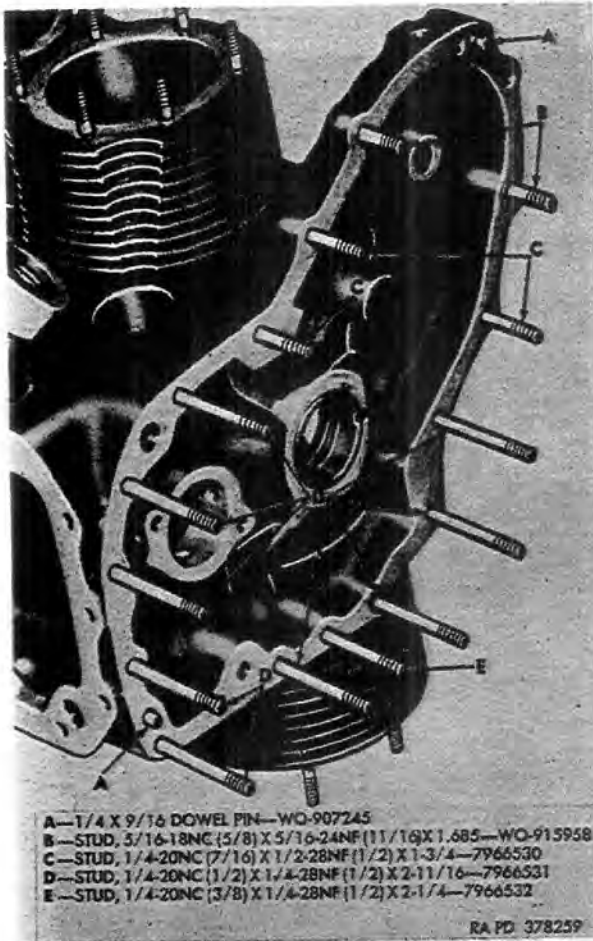

Figure 32. Stud location—Cylinder block, front.
- (5) *Studs* (figs. 32 and 33). Refer to paragraph 26d and e for inspection and repair procedures. Observe setting height as given in table III.
- (10) *Dowel pins* (A, fig. 32). Refer to paragraph 26g for general procedure. Where replacement is necessary, fit and install dowel pins to the limits specified in repair and rebuild standards (par. 129).